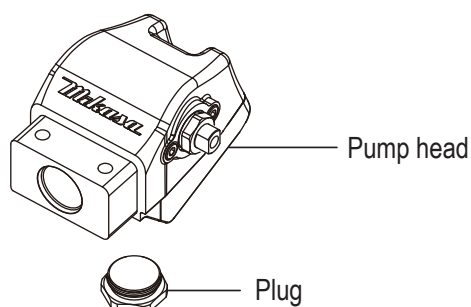

Fig.24
- c. Remove the plug. (Fig.24)